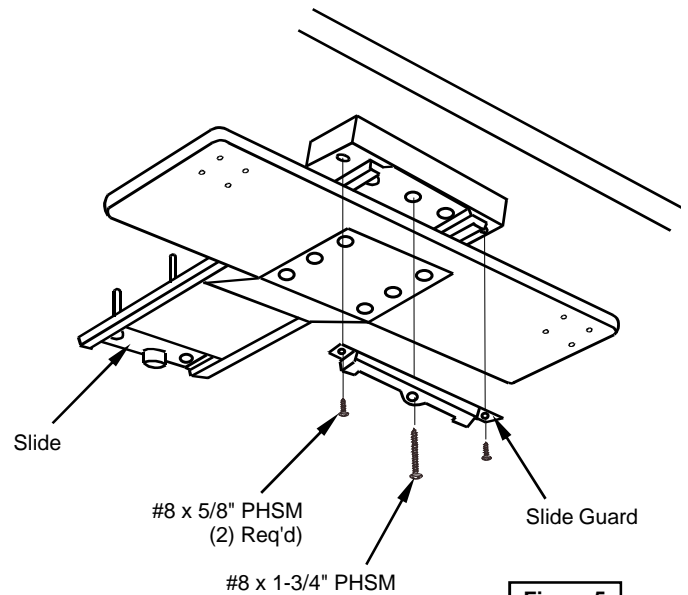

Figure 5
- B. Using (2) #8 x 5/8" PHSM screws, and (1) #8 x 1-3/4" PHSM screw, attach the slide guard to the front of the slide. **Figure 5.**